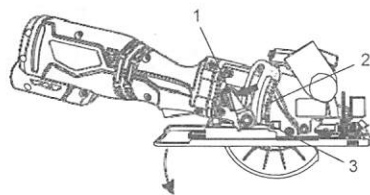
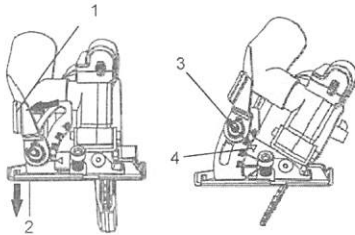

Fig. 2
Fig. 3
1. Rotate the cutting depth locking lever (1) counter clockwise (Fig. 2).
2. Lower the sole plate to the desired depth. **NOTE:** Align the desired depth on the depth control scale (2) with the alignment mark (3) on the saw housing.
1. Rotate the bevel angle locking lever (1) counter clockwise (Fig. 3).
2. Rotate the sole plate (2) to the desired angle.
2. Set the depth (Fig. 2) and set the bevel angle at 0° (Fig. 3).